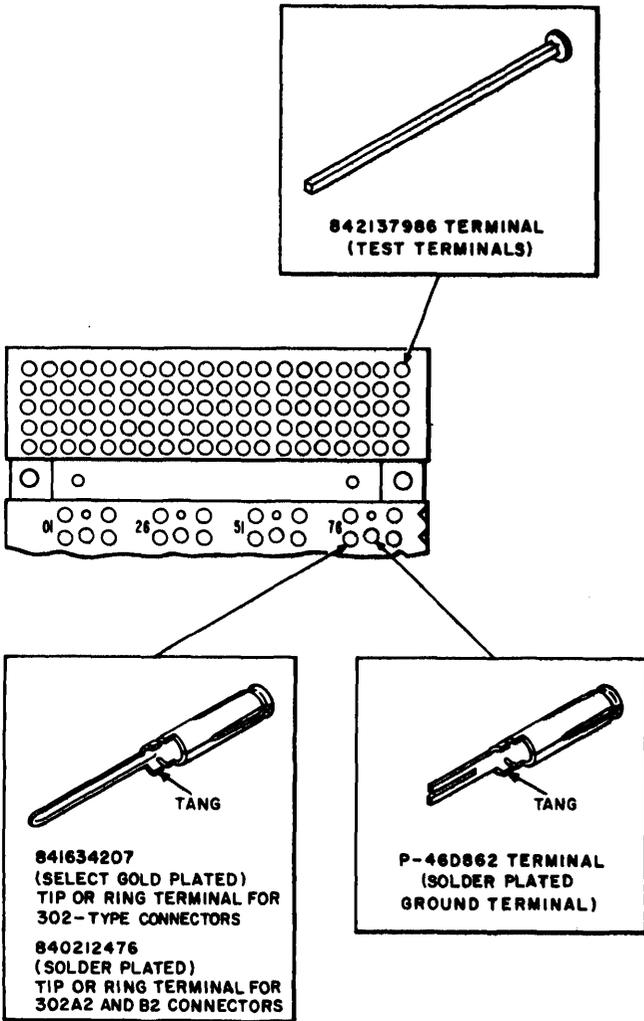
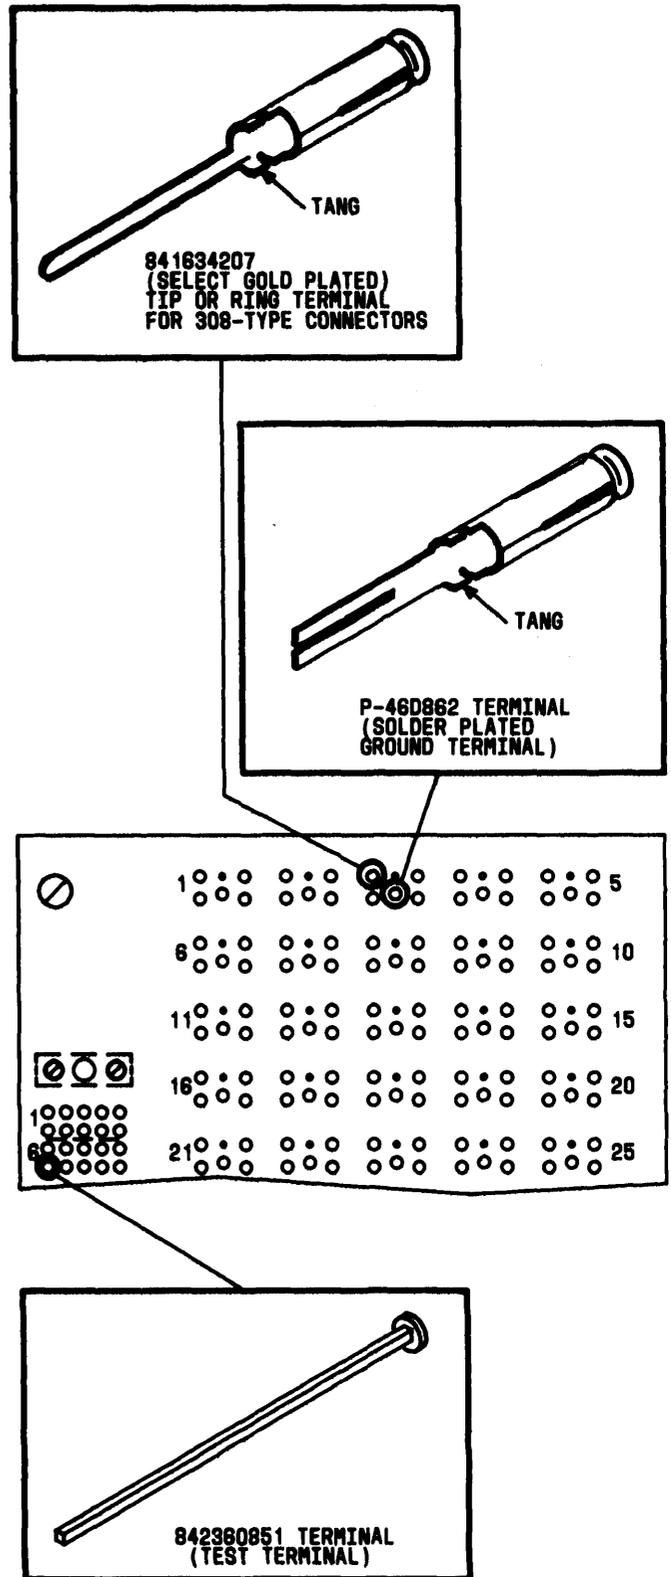

Fig. 3—302-Type Connector, Front Side
Fig. 4—308-Type Connector, Front Side
4.01 840212476 Terminal (Mfr Disc) or 841634207 Terminal (Fig. 3 and 4)
4.02 P-46D862 Terminal (Fig. 3 and 4)
4.03 842137986 Terminal (Fig. 3) and 842360851 (Fig. 4)
4.05 840212476 Terminal (Mfr Disc) or 841634207 Terminal (Fig. 3 and 4)
4.06 P-46D862 Terminal (Fig. 3 and 4)
4.07 842137986 Terminal (Fig. 3) and 842360851 (Fig. 4)